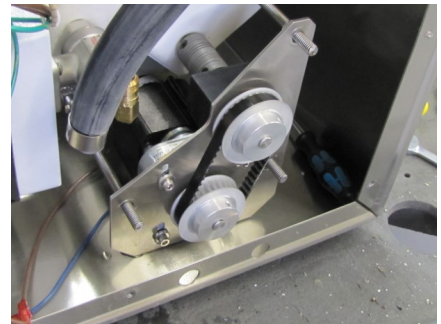

Figure 6
6. Figure 6 shows the agitator motor assembly with the three nuts removed.